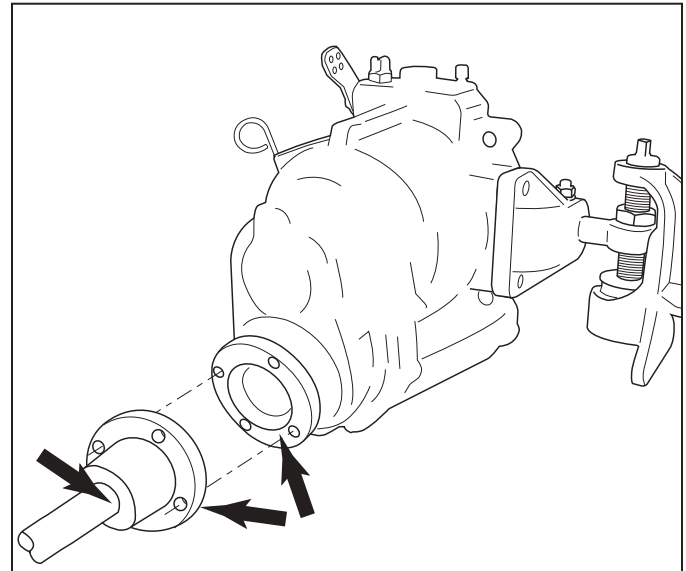

Figure 11-23 Shaft Mating Surface Check
1. Check the mating surfaces on the transmission and the propeller shaft couplings. Make sure they are clean and flat (Figure 11-23).